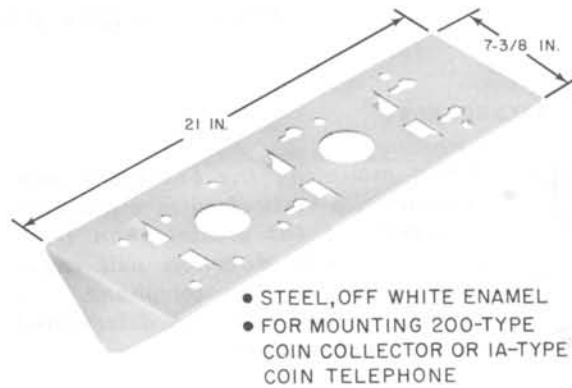

Fig. 2—KS-19340, List 53 Backboard
- (1) D-179939 Kit of Parts which includes:
- One KS-19340, List 53 backboard (Fig. 2)
3.13 Use KS-19340, List 53 backboard (Fig. 2) four P-40Y060 security studs; and 1/4-20 by 5/8 RHM screws as required.